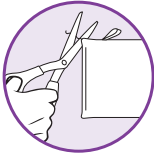

fig. 33
- 2 If there are loose threads on the cleaning pad carefully cut the thread with scissors. Do not pull on them or cut at the base.(fig. 33)